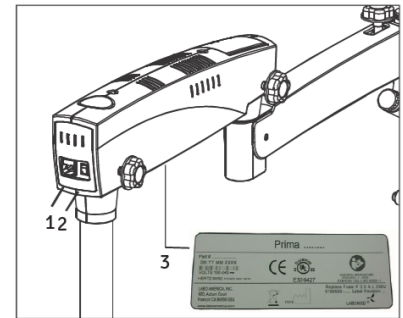

Fig. 41
1. Connect the power cable to the AC inlet socket (1) provided on the back of the swivel arm as shown in the fig.41. Switch on the power from on/off switch (2).
CAUTION: Power supply is designed with universal input 100V - 240V AC, 50/60HZ. To plug in follow instruction on electrical label provided at bottom of the arm as shown (3) here in Fig.41.
It is located on the back of the swivel arm Refer fig 41. At '1' position, microscope is on and cooling fan starts running.